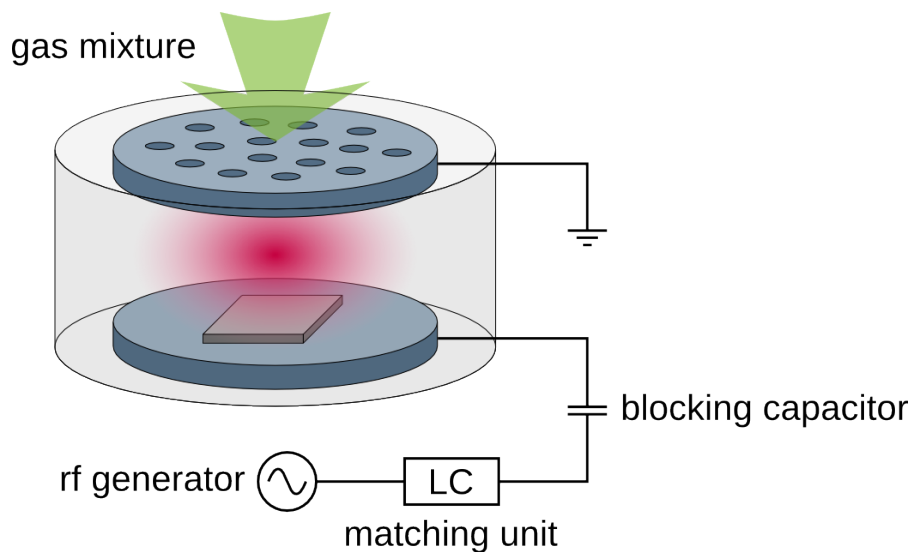

Figure 1: Scheme of the capacitively coupled PECVD reactor.
In this laboratory exercise you will work with radio frequency (RF) discharge called capacitively coupled plasma (CCP). CCPs are used in many plasma enhanced chemical vapor deposition (PECVD) processes and also for plasma etching of materials. The sketch of frequently used configuration of PECVD reactors is in Fig. 1. The aim of this exercise is to understand several relationships important for PECVD in CCP and obtain hands-on experience in setting the deposition parameters. After passing this exercise, you should be able to recognize all functional parts of PECVD reactor, measure the leak rate, understand the relation between the gas flow rate and pressure in the reactor and the relation between the power, delivered power and self-bias.